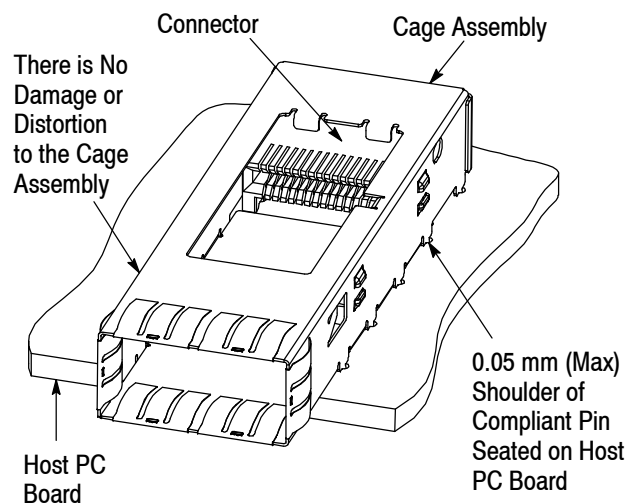

Figure 5
5. Inspect the seated cage assembly according to Figure 5.